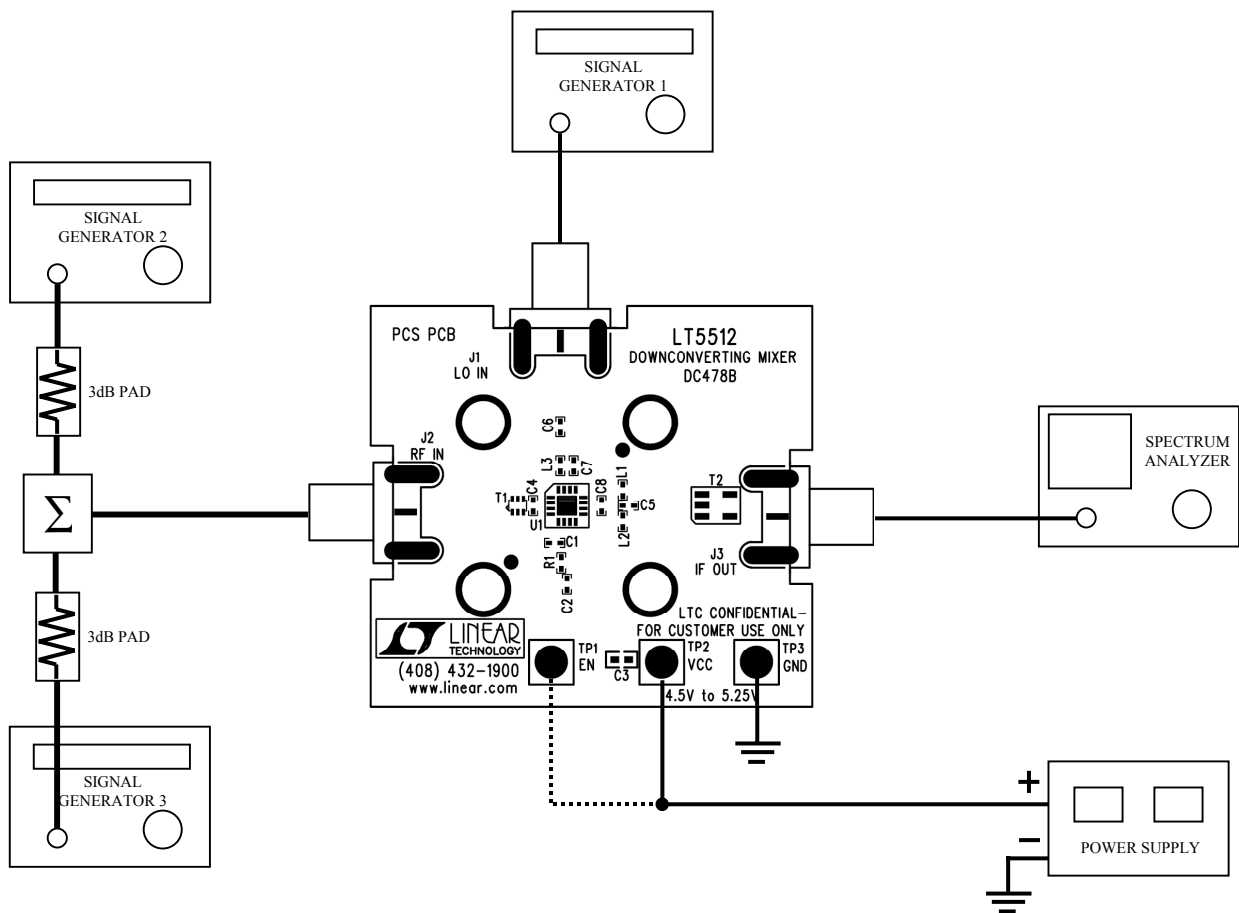

Figure 3. Test Set-Up for Mixer Two-Tone Measurements.
1. Connect all test equipment as shown in Figure 3.